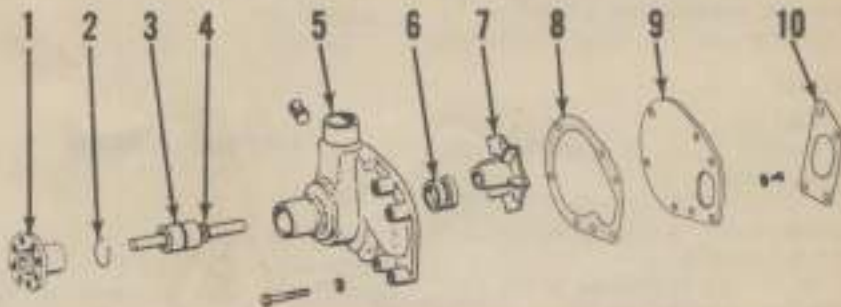

Fig. 90 — Exploded view of water pump used on late D-17 diesel models.
To disassemble pump, remove pulley hub (1—Fig. 90), snap ring (2) and rear cover (9). Press shaft and bearing assembly out towards front from housing and impeller. Drive old seal out of housing. Apply gasket sealer to outer rim or seal and press seal into housing using Kent-Moore seal installing Tool No. J-8902 or equivalent. Press shaft and bearing assembly into housing from front until snap ring (2) can be installed. Lubricate seal contact surfaces and press impeller onto rear of shaft until rear face of impeller is 0.030 to 0.040 below gasket surface of pump body. Install rear cover plate and tighten retaining screws to 11-13 Ft.-Lbs. Reinstall pump by reversing removal procedure.